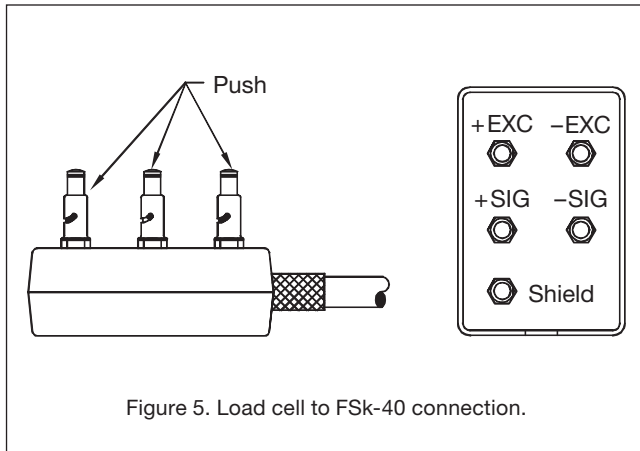

Figure 5. Load cell to FSk-40 connection.
- 1) (FSk-40) Disconnect the signal and excitation wires for each load cell in the 306, 308A or built-in summing junction box (DXp units). Using the FSk-40 wiring harness, connect each set of load cell connectors to the harness using the spring loaded connector block (Figure 5). Plug the other end of the cable harnesses into the FSk-40 terminal blocks.
- 2) (325) Connect the 325 wiring harness to one of the load cell terminal blocks in the 306, 308A, or built-in summing unit. Connect the other end of the harness to the 325 terminal posts.